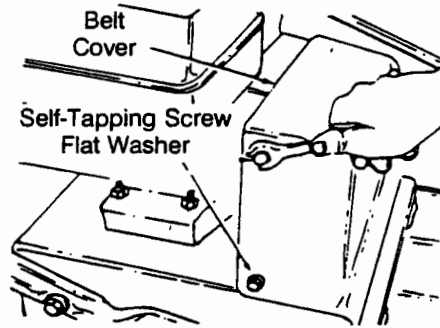

FIGURE 14
- Remove the plastic belt cover on the front of the engine by removing three self-tapping screws and flat washers. See Figure 14.